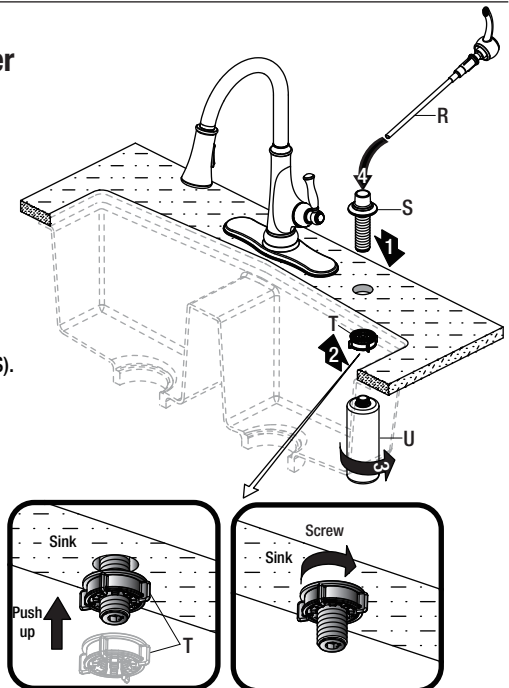

Fig 1
- Insert the soap assembly (S) through the selected hole in the sink. Secure the soap assembly to the sink with the soap dispenser mounting nut (T) provided. Push up the soap dispenser mounting nut (T) to sink and hand-turn to tighten, as shown in the Fig 1.
- From under the sink, screw the soap bottle (U) onto the soap assembly (S) shank. Insert the soap pump (R) down into the soap assembly (S).